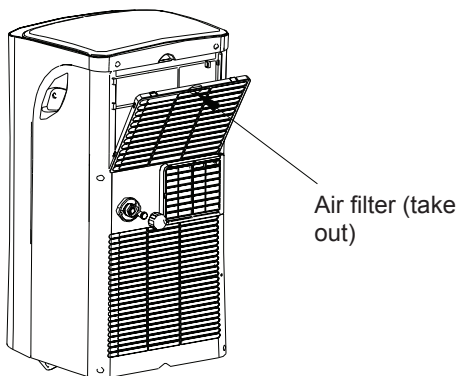

Fig.24
Take the air filter out using the arrow direction (Fig.24).
- Remove the plug from the bottom drain outlet; allowing the water in the bottom tray to drain out (See Fig.24).